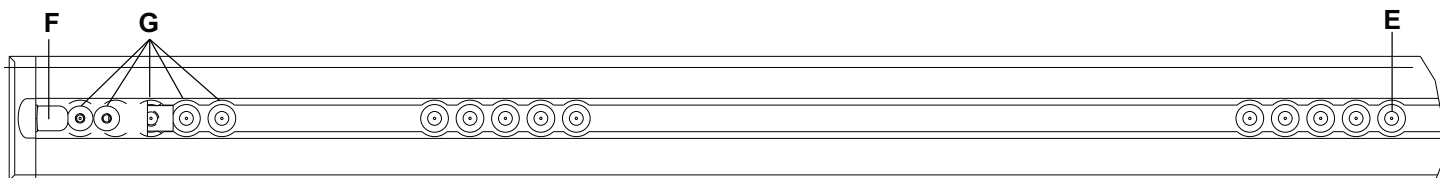

Figure 16 – Floor plate locator position - foot end
Note - If you have a previously installed floor plate without the anchor-to-vehicle cable, measure either 3 in. or 7 in. (7.6 cm or 17.8 cm) toward the head end from the locator position E (Figure 16). Mark the location in the middle of the channel. This will be your electrical inlet location. See the Stryker Floor Plate Installation Manual (6390-109-020) for instructions about how to connect the electrical.
Note - The safety hook (F) and extra mounting hole locations (G) are shown for reference only (Figure 16). They are not used for **Performance-LOAD** installation.